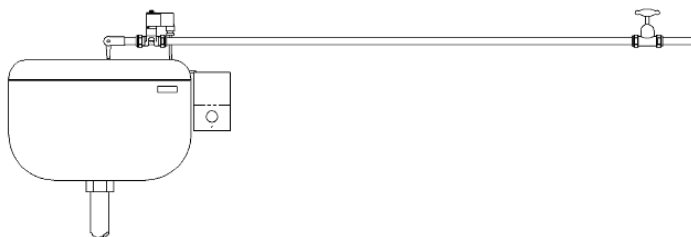

Fig 1
4. Select a position for the WaterWatch near the urinals so that it can detect use. The base plate can be wall or ceiling mounted. The control box hooks under the bottom edge of the base plate and secured with the retaining screw. (See Figs 1 and 2 below)